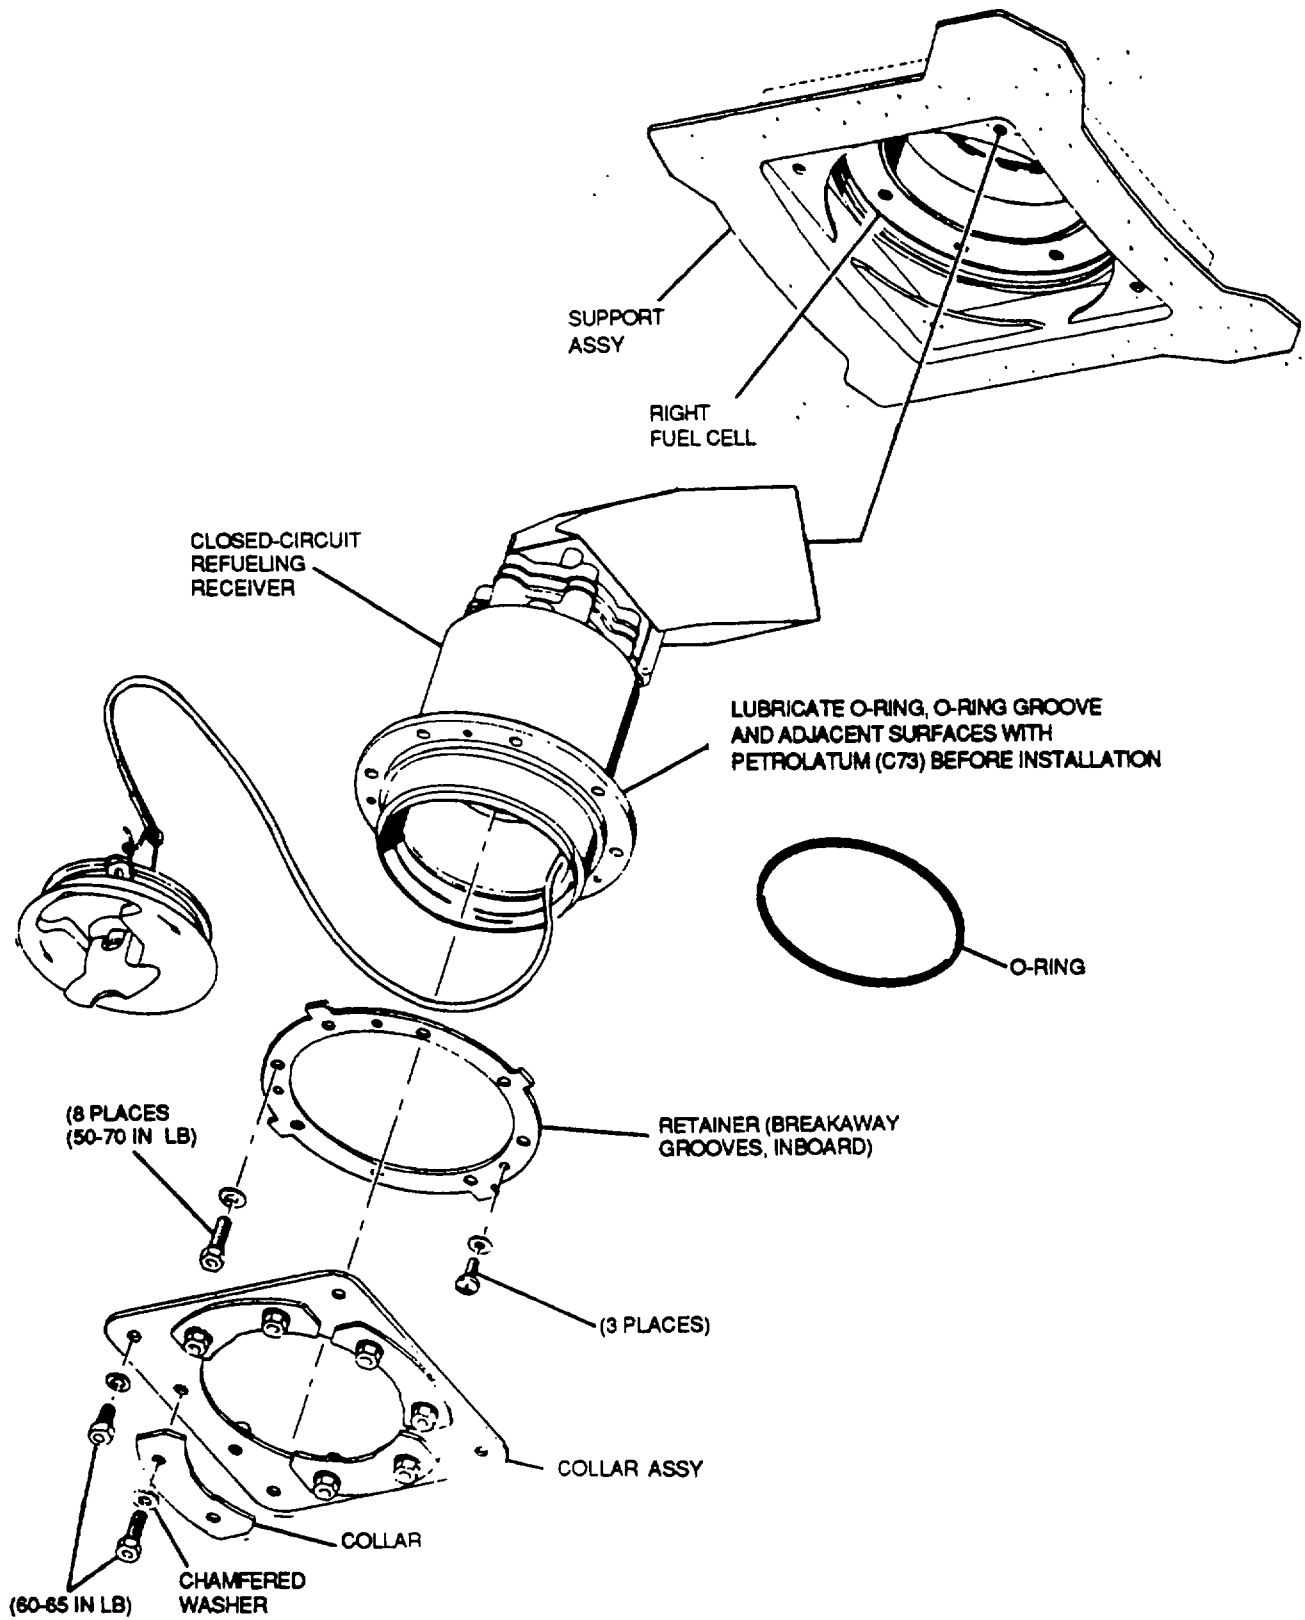

Figure 2-20. Closed-Circuit Fuel Receiver Installation
(2) *Inspection.* The CCR receiver as shown in figure 2-20 is inspected as follows: